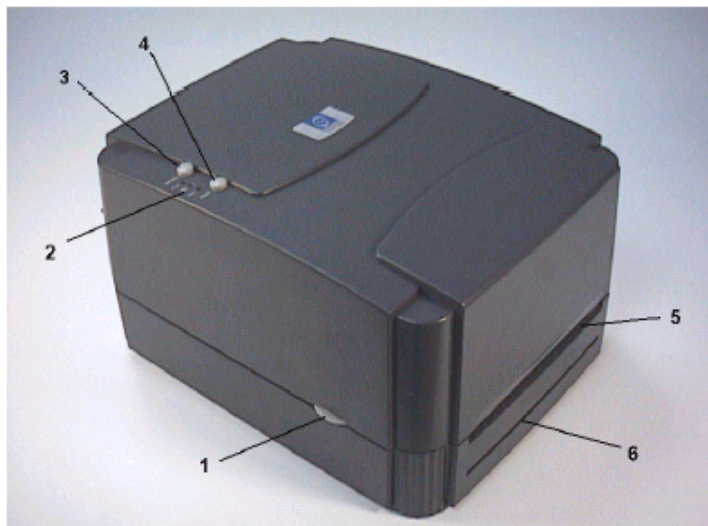

Figure 1. Top front view
- 1.3.1. *Fig.1.* **LabelStation** Printer External View